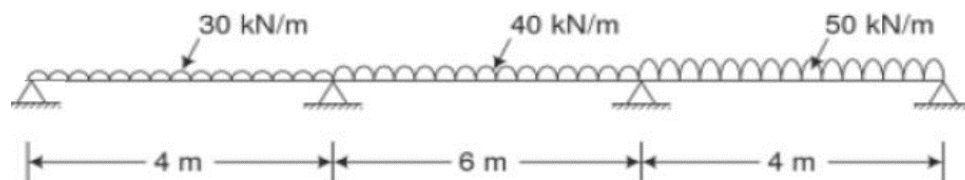

Figure 4
9. Design the continuous beam with the service load as shown in the Figure 4. The load factor may be assumed as 2. Provide a uniform cross section throughout the beam. [12M]